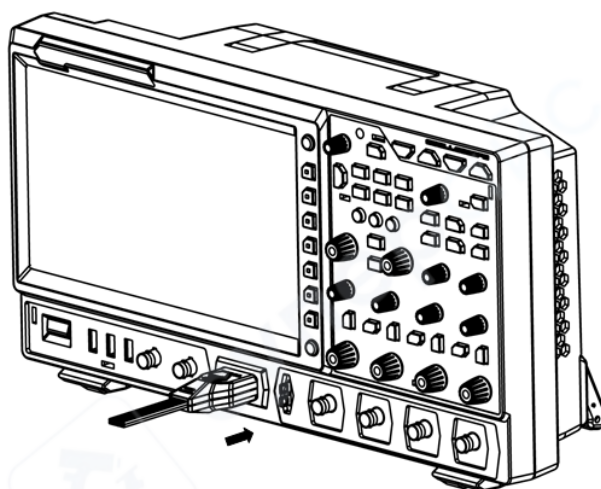

Figure 4.9 Connect the logic probe
1. Connect the output terminal of the logic probe to the digital channel input terminal on the front panel of the oscilloscope in the correct direction, as shown in *Figure 4.9*.